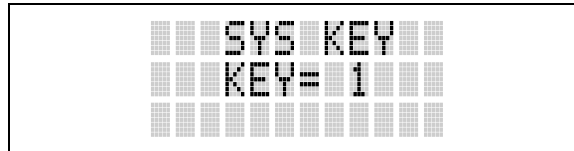
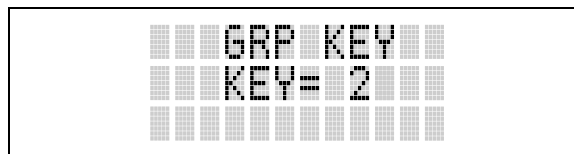

Figure 9-11: System Encryption Key Display
Figure 9-12: Group/Channel Encryption Key Display
3. Use the **[▲]** or **[▼]** button to toggle between displaying the system key (Figure 9-11) or the group/channel key (Figure 9-12).